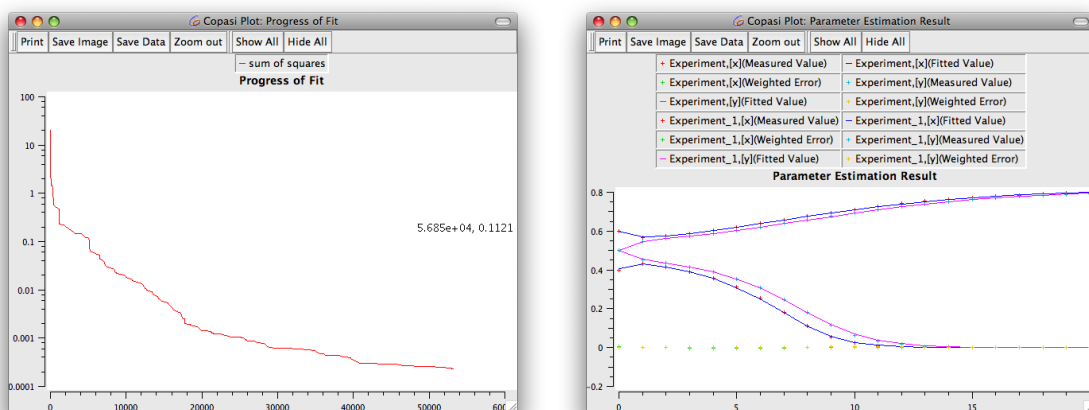

Figure 2: Parameter estimation “Progress of Fit” and “Parameter Estimation Result”, for the positive feedback model in equation (1).
Assistant” again, and select “Progress of Fit” – this will show the cost function as the estimation proceeds (as in Figure 2 below).
- Then, in the “Parameter Estimation” panel, select a “Method” (“Particle Swarm” seems to be quite good for this problem), and click on “Run”. It should start the fitting process, and once it is finished (or you have stopped the process), you can click on “Result” below “Parameter Estimation” (click on the triangle if you cannot see it) to see the parameter values that have been estimated. The “Parameter Estimation Result” window should show the final simulated values corresponding to the estimated parameters, and the experimental values, something like Figure 2 below.